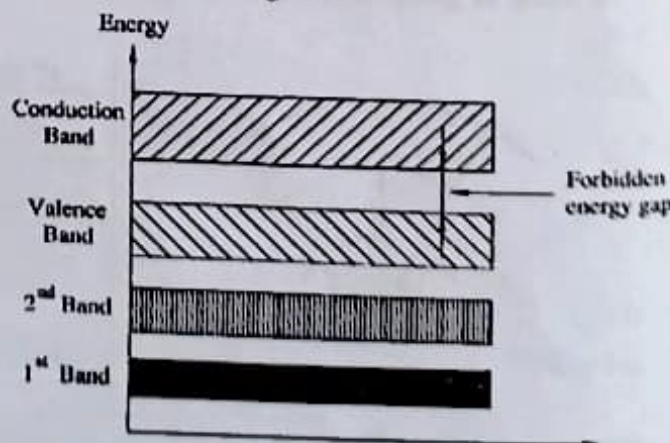

FIG. 1.15 : ENERGY BAND DIAGRAM
- The graphical representation of the energy band diagram is shown in Fig. 1.15.
- It is shown in Fig. 1.15.
- The energy band occupied by the conduction (or free) electrons is called conduction band, which is shown in Fig. 1.15.